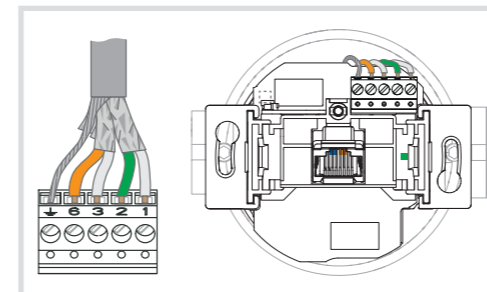

Figure 4
- Mount terminal block (1) onto the contact pins (3) (Figure 4).